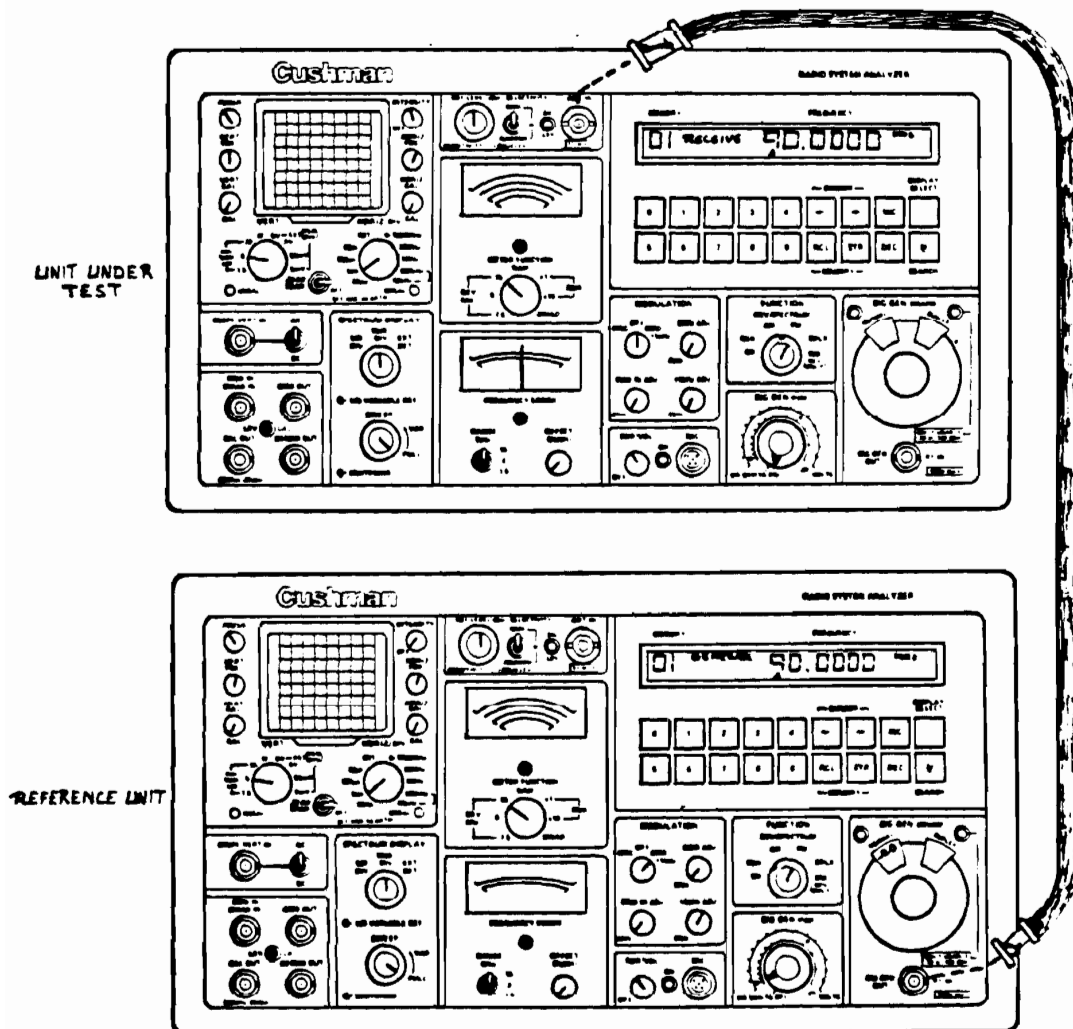

Figure 5-2. RCV/Spectrum Verification Set-Up
- c. Connect a coax from the ANT IN of the CE-6000 unit under test to the testing CE-6000 SIG GEN OUT/RF IN connector (see Figure 5-2). Adjust the SQUELCH control until the SIG LEV LED just comes on.